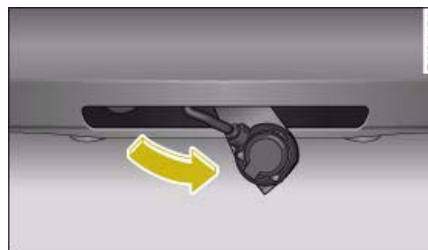

Fig. 215 Area below rear bumper: Folding up the socket
- Then swivel the socket up => fig. 215 **as far as it will go**. The mounting fixture will be closed automatically.